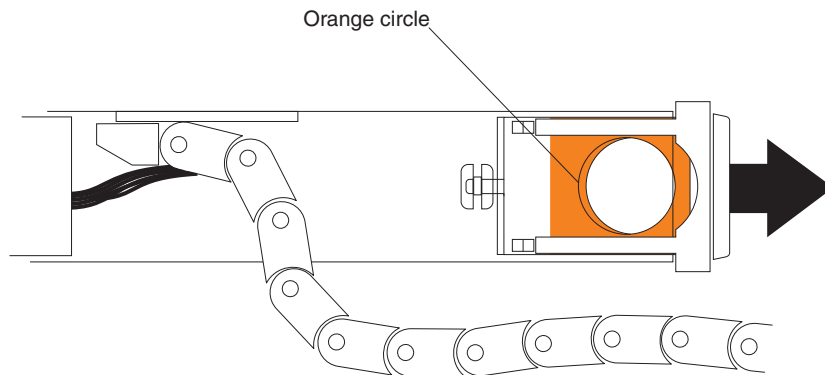

Figure 91. Horizontal mounting bracket that connects to the drive drawer
- b. Disconnect the right cable chain mounting bracket from the drive drawer. Hold the orange handle (See Figure 91), and pull the mounting bracket out of the drive enclosure.